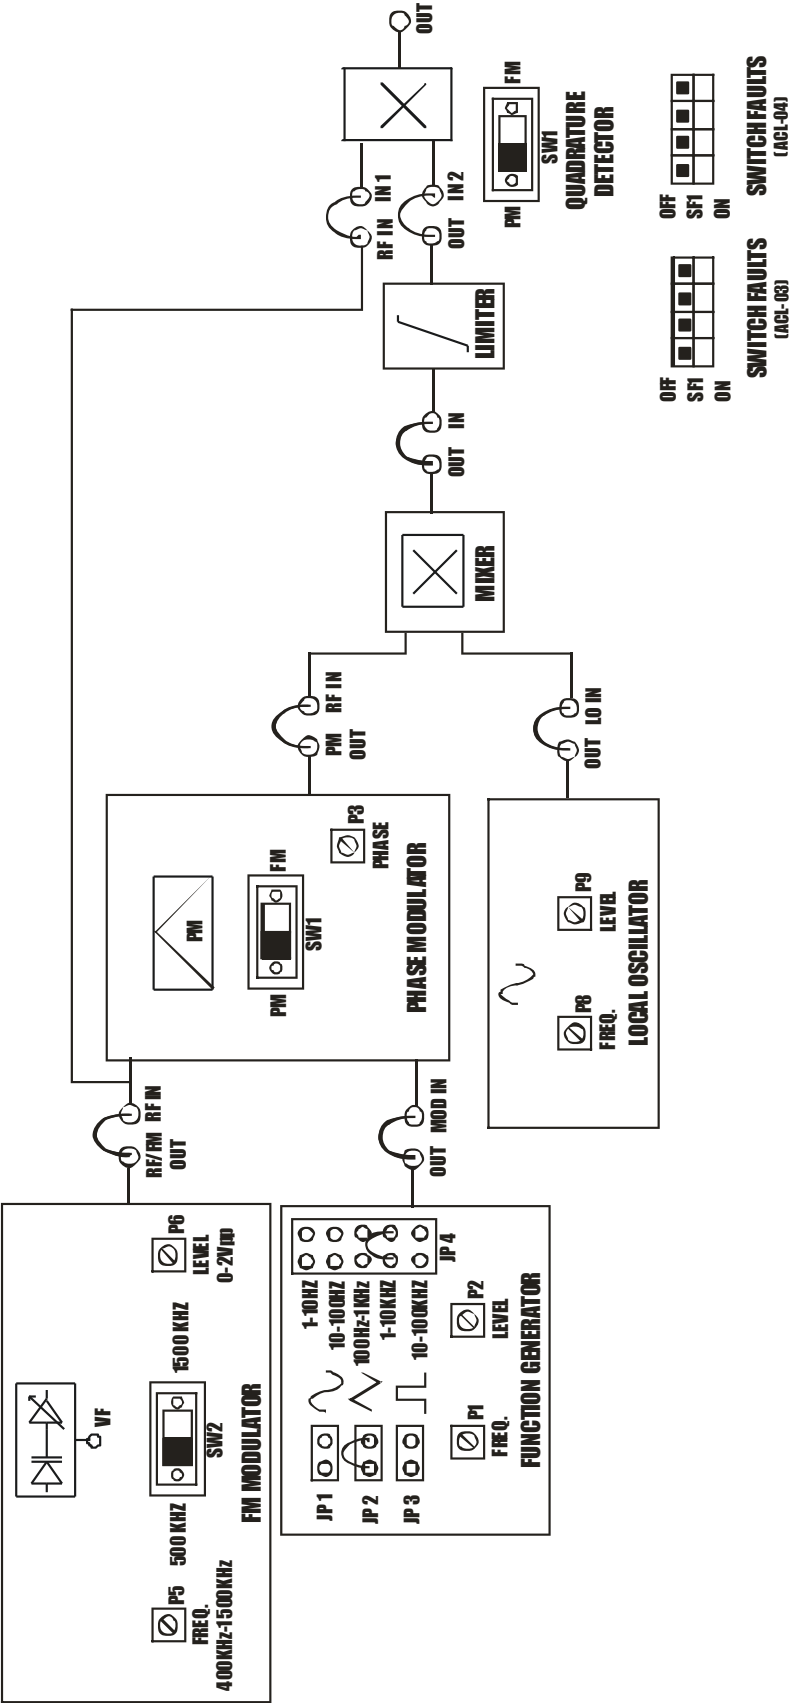

FIG. 8.1 BLOCK DIAGRAM FOR PHASE DE MODULATION
- Refer to the FIG. 8.1 & Carry out the following connections.